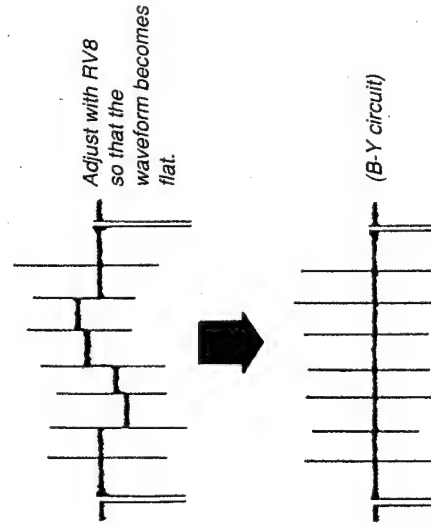

Fig. 22-2.
4. Set the oscilloscope sensitivity to 20 mV/DIV, and adjust RV8 on the BD board so that the output waveform is flat. (See Fig. 22-2.)
9. Adjust RV7 on the BD board so that the output waveform is flat. (See Fig. 22-2.)